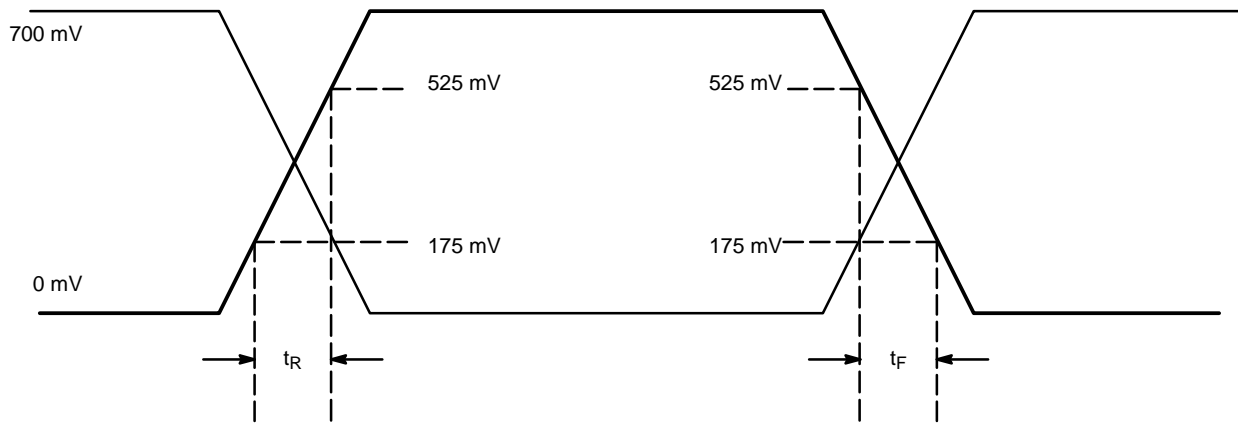

Figure 11. HCSL Output Parameter Characteristics
| $t_R$              | Output Risetime (Measured from 175 mV to 525 mV, Figure 11)   | 175 |  | 700                    | ps            |
| $t_F$              | Output Falltime (Measured from 525 mV to 175 mV, Figure 11)   | 175 |  | 700                    | ps            |
18. VDDXD and VDDODA power pins must be shorted to power supply voltage  $V_{DD}$  and GNDXD and GNDODA ground pins must be shorted to power supply ground GND. Measurement taken from differential output on single-ended channel terminated with  $R_S = 33.2\ \Omega$ ,  $R_L = 50\ \Omega$ , with test load capacitance of 2 pF and current biasing resistor set at 475  $\Omega$ . See Figure 11. This parameter is guaranteed by characterization. Not tested in production.